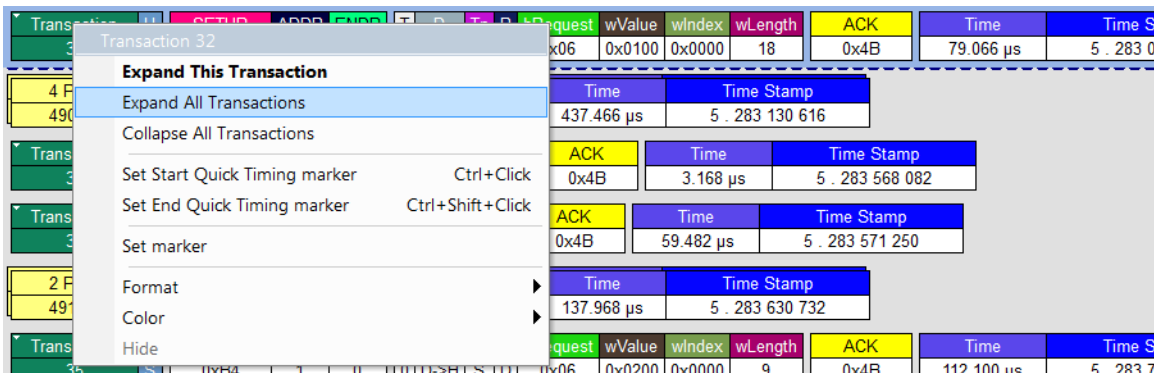

Figure 5.47: Expand Transaction Menu
1. Right-click the transaction number you wish to view to display the Expand Transaction menu (see Figure 5.47 on page 187.)